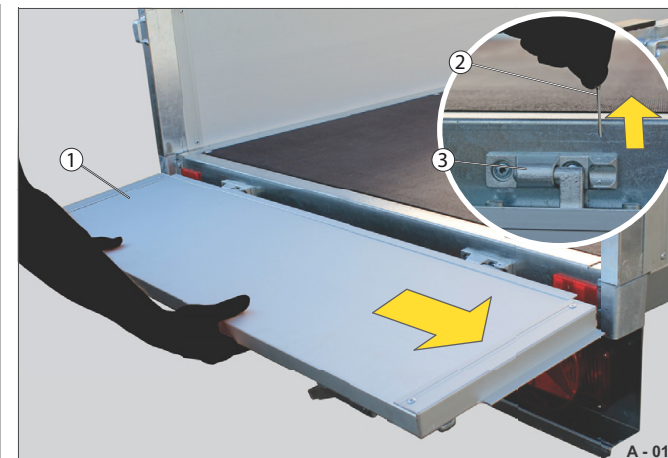

Fig. 13 Removing the drop side
- Unlock the drop side (Fig. 13 /1).
- Remove the securing split pin (Fig. 13 /2) from the drop side hinge (Fig. 13 /3).